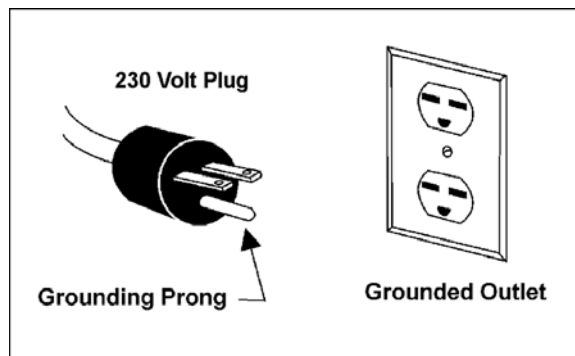

Figure 14
3. The 115V attachment plug supplied with the drill press must be replaced with a UL/CSA listed plug suitable for 230V operation, similar to the plug illustrated in Figure 14. Contact your local Authorized Powermatic Service Center or qualified electrician for proper procedures to install the plug.
5. The drill press with a 230-volt plug should only be connected to an outlet having the same configuration as shown in Figure 14. No adapter is available or should be used with the 230-volt plug.